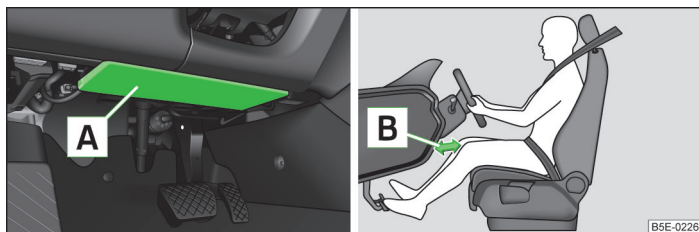

Fig. 160 Driver's knee airbag below the steering column
The driver's knee airbag **A** is located in the lower part of the dash panel below the steering column » Fig. 160.
- Adjust the driver's seat in a forward/back direction so that there is a gap of at least 10 cm between the legs **B** and the dash panel in the vicinity of the knee airbag » Fig. 160. If it is not possible to meet this requirement due to your body size, visit a ŠKODA specialist garage.